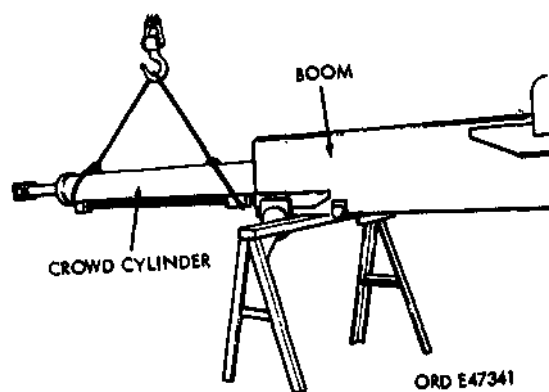

Figure 552. Removing and installing crowd cylinder in boom
- (1) Attach a chain hoist to boom crowd cylinder. Lift and position cylinder assembly in inner boom as shown in figure 552.
(2) Install pin in end of cylinder and secure with cotter pin (fig. 552).
(3) Install inner boom assembly in outer boom. Refer to paragraph 423.
(4) Install boom assembly (par. 406).